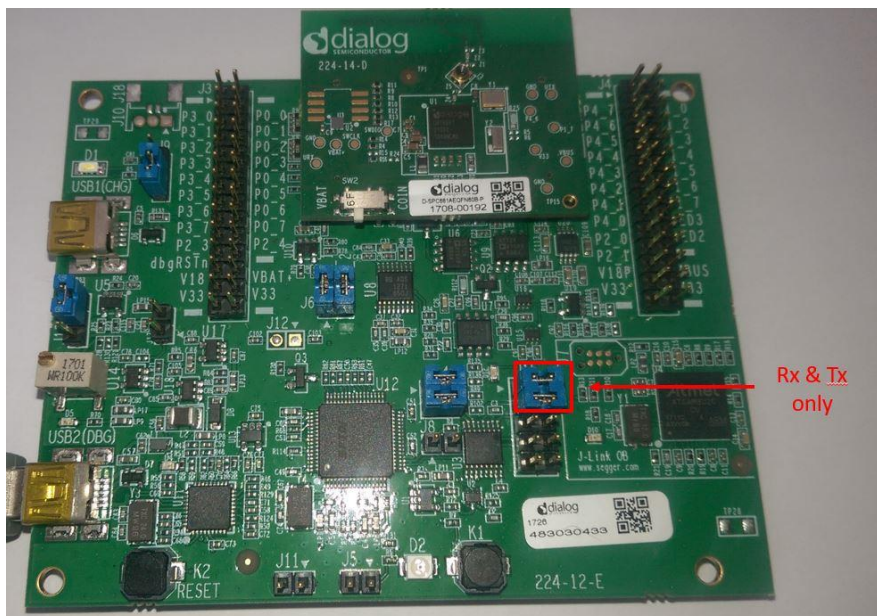

Figure 61: Jumpers only on Rx and Tx for ProDK no Flow Control
- On a ProDK make sure that CTS is not connected on the UART by ensuring there is no jumper on J15.7-8 as shown in Figure 61.
The Bluetooth low energy peripheral device does not have flow control on its UART so on a ProDK on the virtualCOM port configure as shown in Figure 61 Figure 24 and on a BasicDK with an FTDI cable connect as in Figure 15.